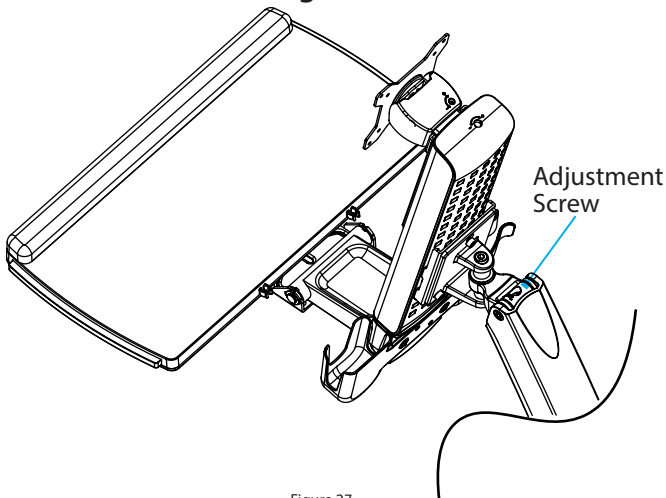

Figure 27
- If the **Workstation** doesn't remain in the set position, or it's difficult to raise or lower, use a Ratchet with a 1/4 inch Socket to turn the **Screw**, located in the hinge of the **Monitor Arm**, to adjust the tension of the **One-Touch Height Adjustment Spring**. (Figure 27)